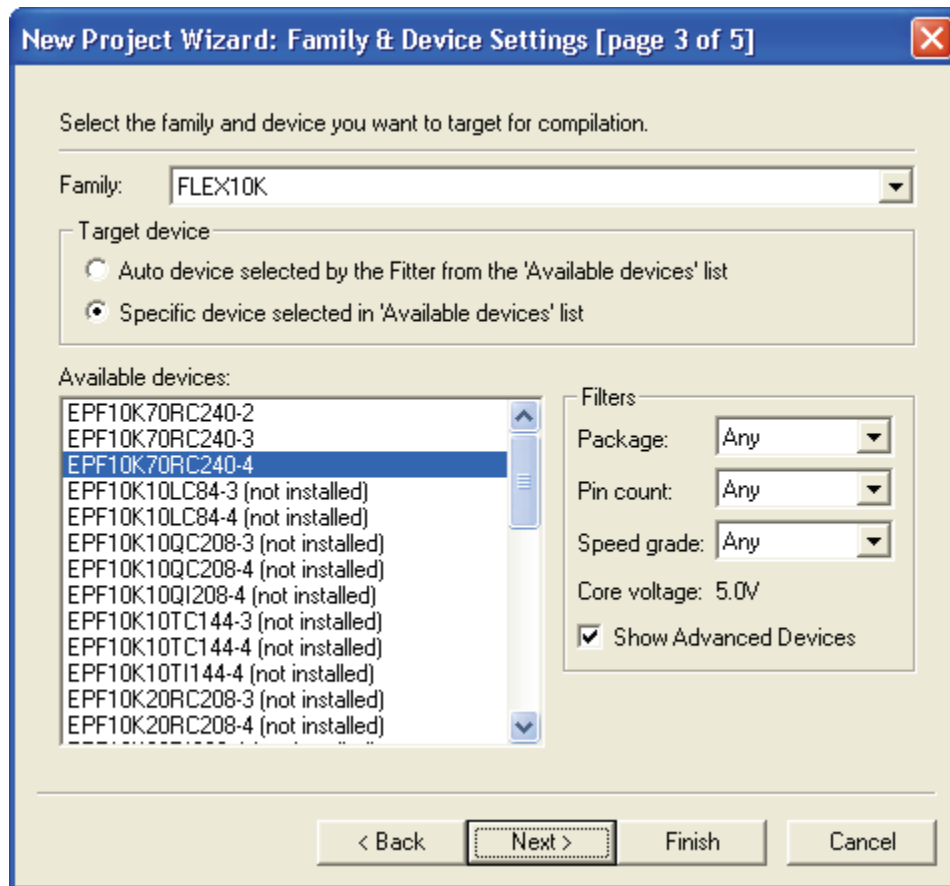

Figure B.3 The New Project Wizard: Family & Device Settings window with the device EPF10K70RC240-4 selected.
7. In the New Project Wizard: Family & Device Settings [page 3 of 5] window shown in Figure B.3, we select the target PLD device that we will be implementing the circuit on. The UP2 board has two different PLD devices for programming: the FLEX 10K, which is the larger PLD, and the MAX7000S.